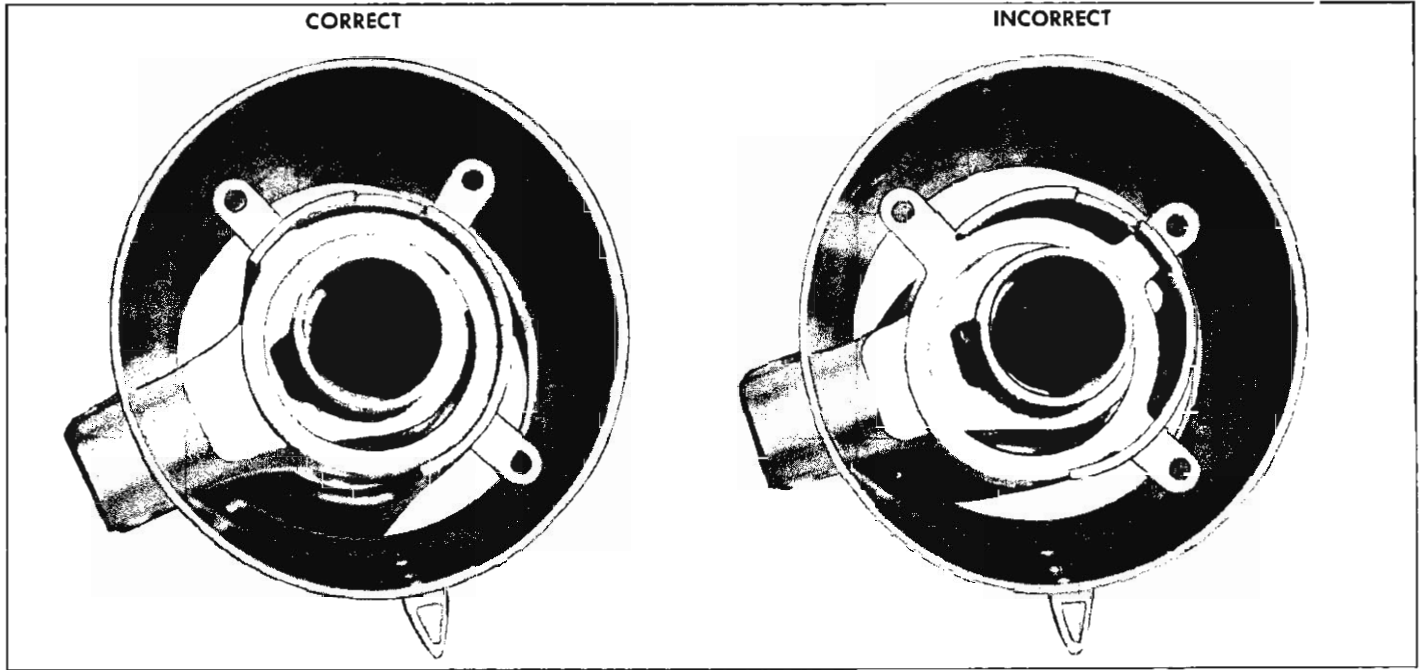

Fig. 31—Correct Lock Plate Position
- NOTE:** Be certain to install locking plate properly (fig. 31) or attaching screws for direction signal housing will not line up properly.
- NOTE: Be certain to install locking plate properly (fig. 31) or attaching screws for direction signal housing will not line up properly.**